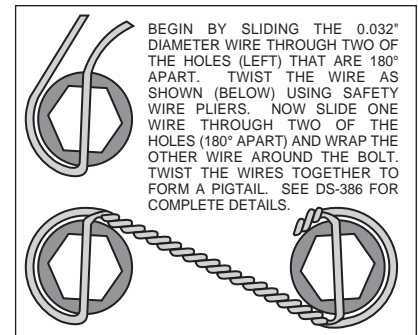

Figure 3. Safety Wire Diagram
- With the larger I.D. side of the rotor (7) facing away from the hat (8), bolt rotor (7) to the hat (8) through the backside of the rotor using washers (9) and bolts (10). Using an alternating sequence, apply red *Loctite*® 271 to the threads and torque bolts to 155 in-lb. For an added measure of security, the bolts may be safety wired using standard 0.032 inch diameter stainless steel safety wire as shown in Figure 3. Please refer to Wilwood's data sheet DS-386 for complete safety wire installation instructions.